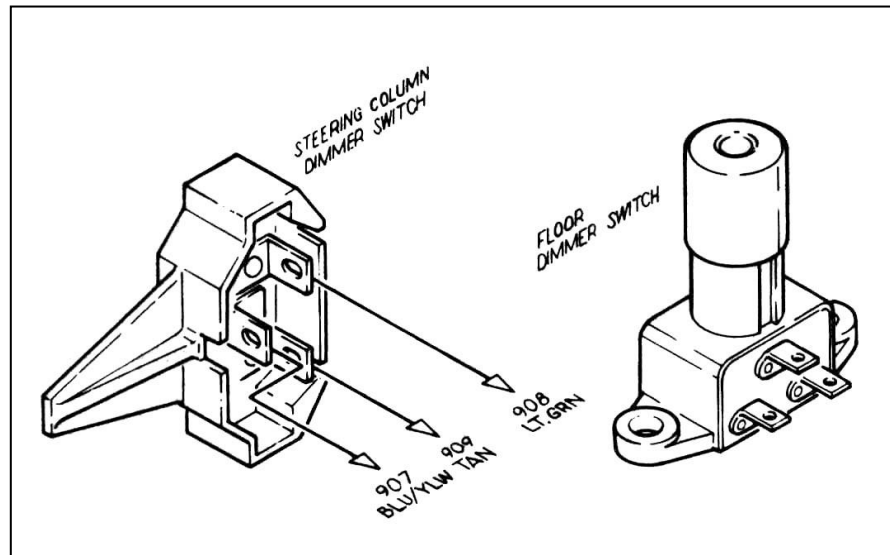

Figure 10-5 Dimmer Switches (Push-Button Style - Painless Part #80150)
10.4.5 Take the DIMMER SWITCH SECTION connector and connect it to your floor-mounted Dimmer Switch or column-mounted Dimmer Switch. **Figure 10-5**